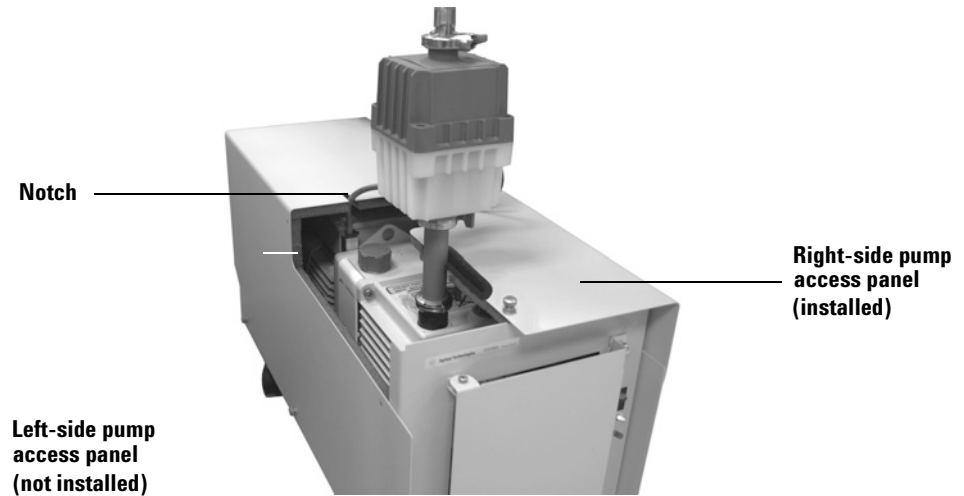

Figure 9 Installing pump access panels.
- 2 Orient the mist filter drain into the notch in the lid and install the pump access panels, aligning the notch in the access panel with the notch in the lid. Tighten the retained thumbscrews on the top and both sides. See Figure 9.